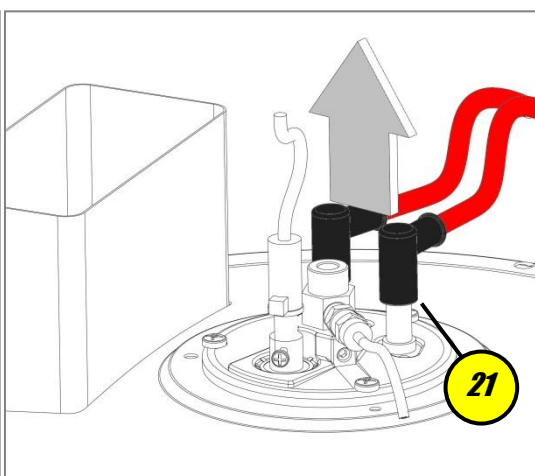

Figure 16
- c.** Remove the electrode connectors 21 (fig. 16).